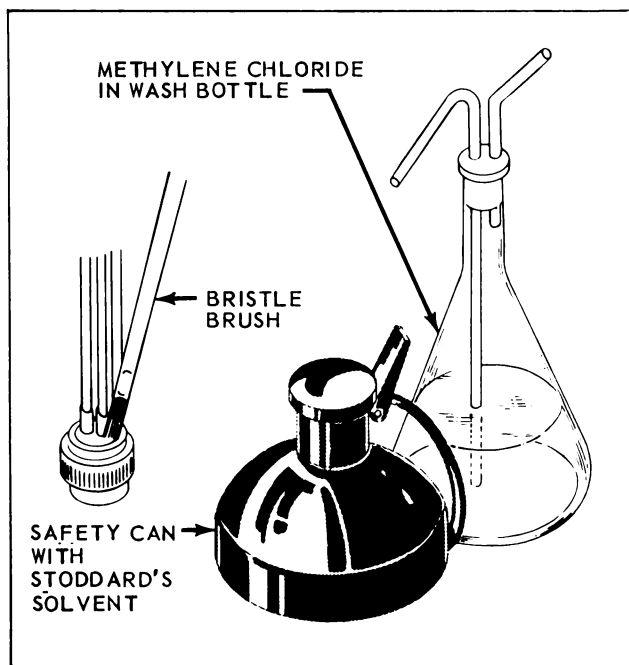

Figure 3-48. Cleaning Connector Prior To Potting
- d. Clean the complete connector assembly by scraping off rosin and then brush vigorously in new unused, Stoddard's Solvent followed by second rinse in clean Stoddard's Solvent. See Figure 3-48.